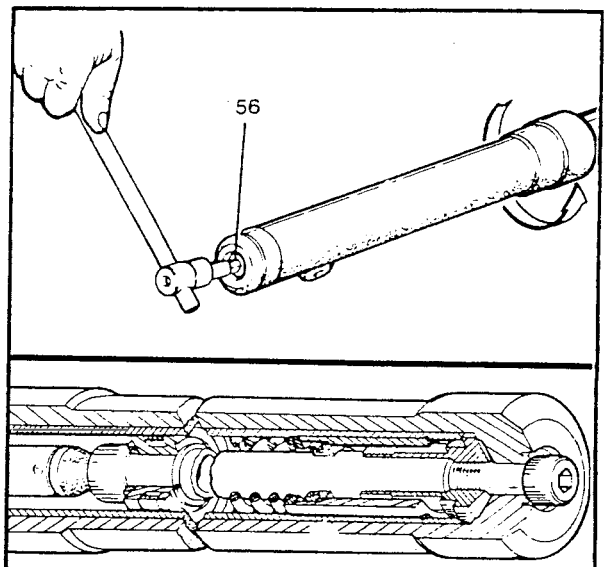

Figure 5-28. Tighten Main Fork Screw
6. See Figure 5-28. Install and tighten main fork screw (56) and washer (55) from the bottom, ensuring that the damper tube foot is correctly located in the bottom of the slider.